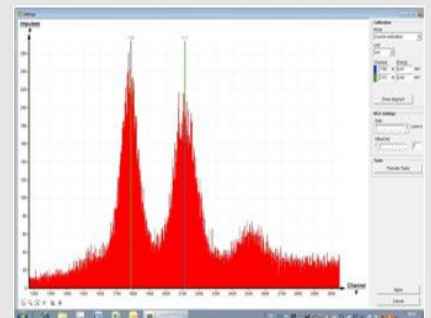

Fig. 4: calibration of the multi-channel analyser
- In the MEASURE program, select "Multi channel analyser" under "Gauge". Then, select "Settings and calibration". After the "Calibrate" button has been clicked, a spectrum can be measured. The counting rate should be < 300 c/s. Energy calibration settings: - 2-point calibration, - Unit = keV, Gain = 2 – Set the offset so that low-energy noise signals will be suppressed (usually a few per cent are sufficient), See Fig 4.